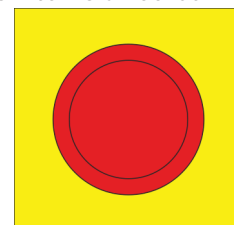

Fig. 33 Emergency stop switch
1. Ensure that all emergency stop switches (Fig. 33) have been unlocked.